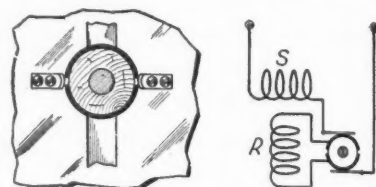

Fig. 2. A Section of the Commutator Arrangement and the Two Brushes, Showing How the Coils Are Connected to It.
Due to this switching arrangement, a very large number of turns can be used on both the stator and rotor coils, with a corresponding broad range of tuning; 100 turns or more are suggested for each coil. Referring to Fig. 2, the variometer is connected as follows: One terminal of the stator coil is connected to a binding post. The second terminal of the stator is connected to one
This switch may be adjusted to stop on the last of any number of switch points, by using the following instructions: Tighten the rod (F) of the collar (C) in the same plane as the switch lever, as in Fig. 2. The lever is put on the first point and the nut (E) turned until the rod (H) touches (F). The bushing is then tightened from the front side of the panel. Turn the lever to point 6, or 10, or whatever it may be, and tighten the rod (G), being sure it touches the rod (H), as in the diagram.